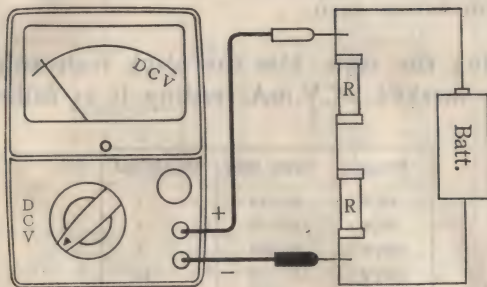

Fig. 1 - DC Voltage Measurement.
- Different from voltage measurements, the meter must be connected in series with the load. The test point (\times in Fig. 1) is opened and the meter is placed in between by way of the test leads.